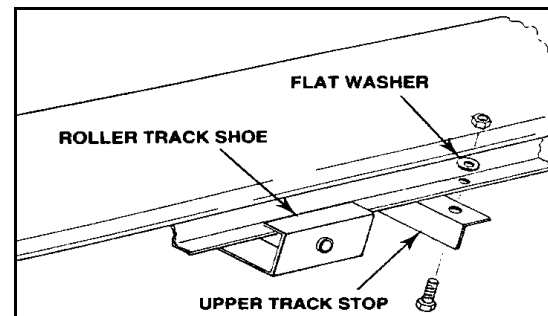

Figure 3.5
2. **All augers:** slide roller trackshoe onto track. Attach the upper angle-iron trackstop with 7/16" x 1-1/4" bolts, heavy flat washers, and locknuts (Figure 3.5). Ensure trackstop is installed in correct position by referring to Table 3.2.